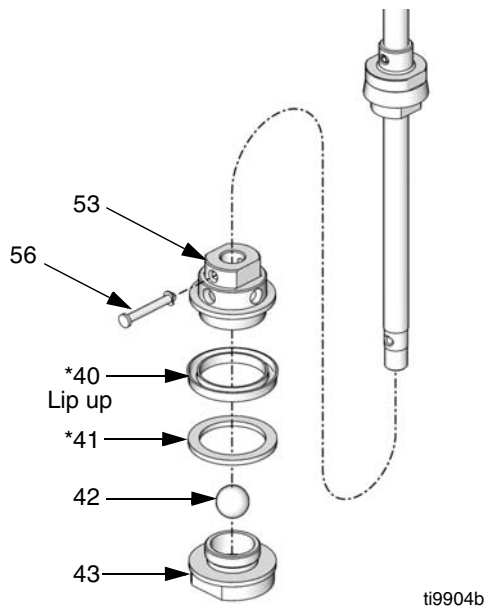

FIG. 21
- Remove pin (56). Remove piston valve assembly. Unscrew piston valve (43) from piston housing (53). Remove wear ring (41*), u-cup (40*) and ball (42). Inspect all parts for damage. See FIG. 21.